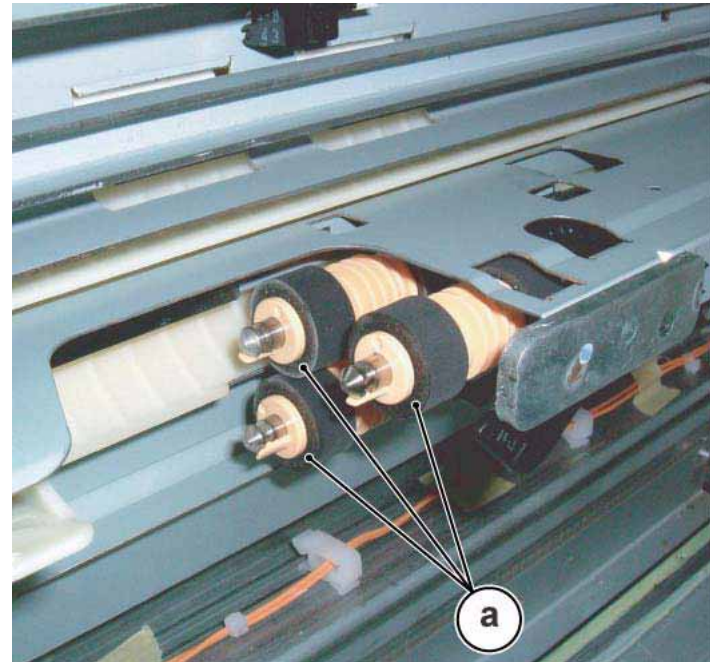

Figure 2 Removing the Feed/Nudger/Retard Rolls
4. Remove the Feed/Nudger/Retard Rolls. Figure 2